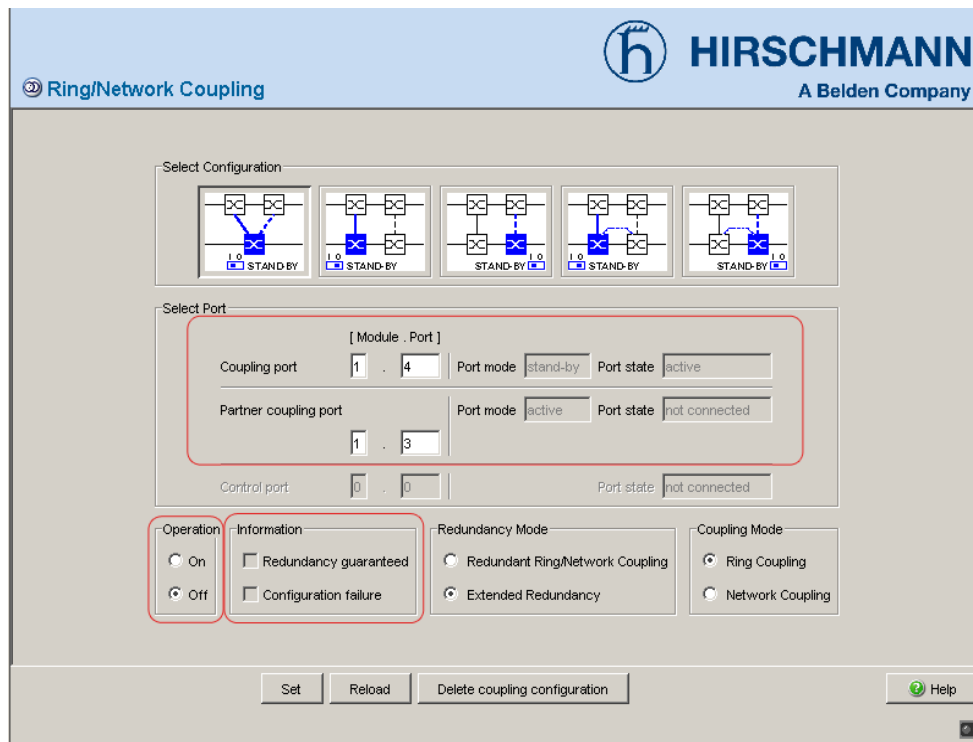

Figure 9: Selecting the port and enabling/disabling operation
- ☐ Select the partner coupling port (see fig. 9), (see table 7).
- ☐ Select the coupling port (see fig. 9), (see table 8).
The displays in the “Select port” frame mean (see fig. 9):
The displays in the “Information” frame mean (see fig. 9):